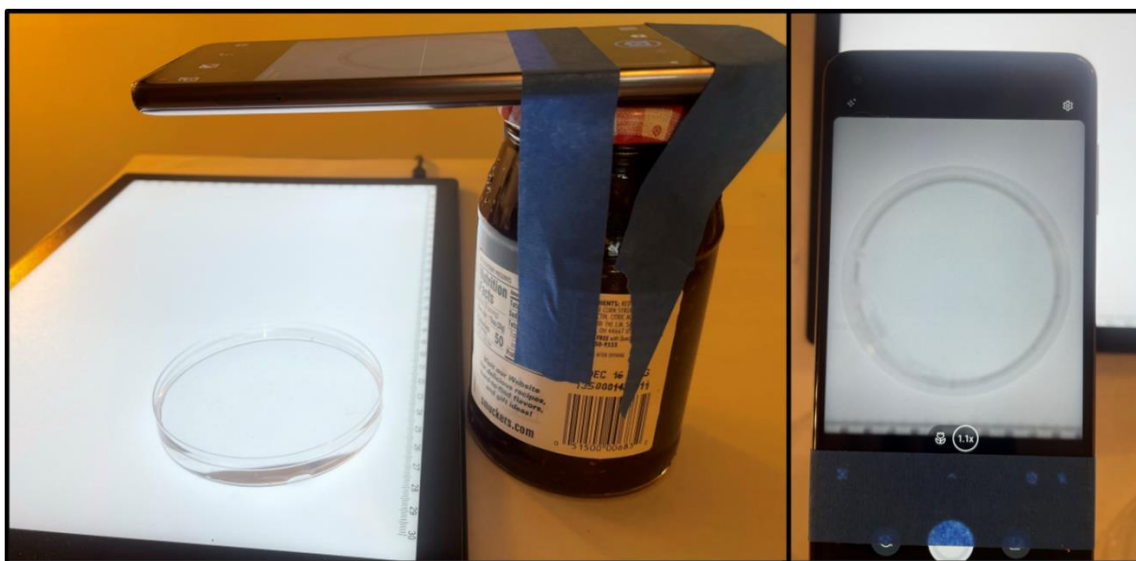

Figure 1. The phone positioned over the Petri dish (left) with no outside objects in the view (right).
8. Start the camera application and position the smartphone over the Petri dish at a height that ensures the dish that will contain the aggregates takes up most of the camera screen and the camera will not capture any objects outside of the petri dish (Fig. 1). Adjust the position of the phone and zoom of the phone camera to prevent other objects in the frame.